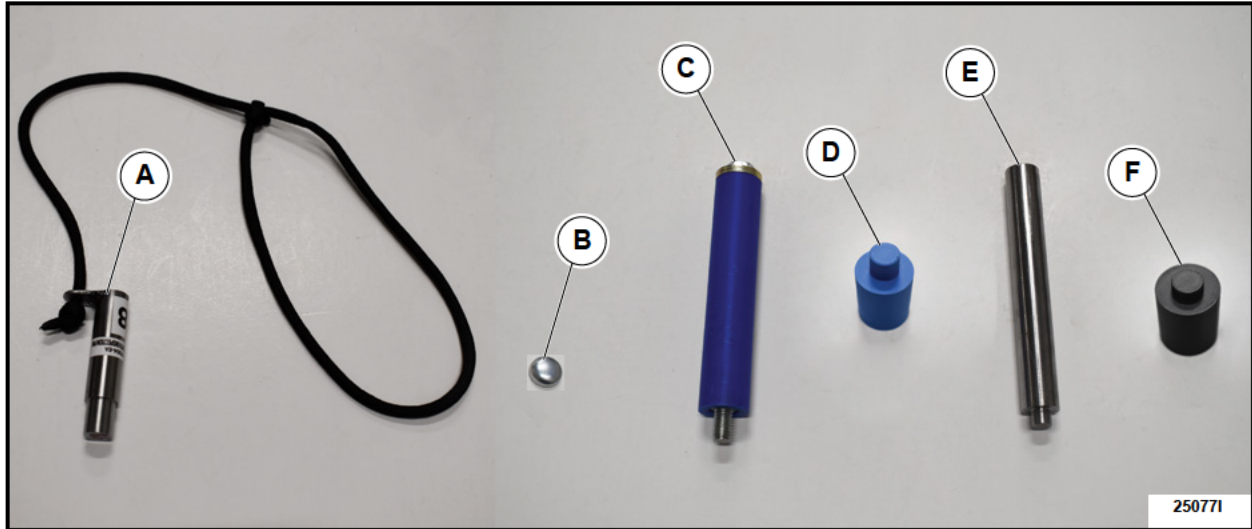

FIGURE 19
** For tool identification, See Figure 19 on page 15 for contents and descriptions of 25S30 Inspection and Repair Kit that is required to proceed.
NOTE: Wipe down the inspection pin (Gauge 1) (Item “A” Figure 19 on Page 15) before use.